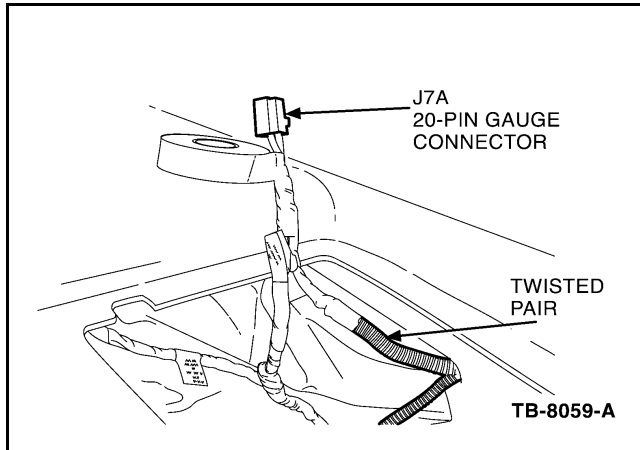

Figure 18 - Article 04-24-9
- i. Tape up connections with orange tape (Figure 18).